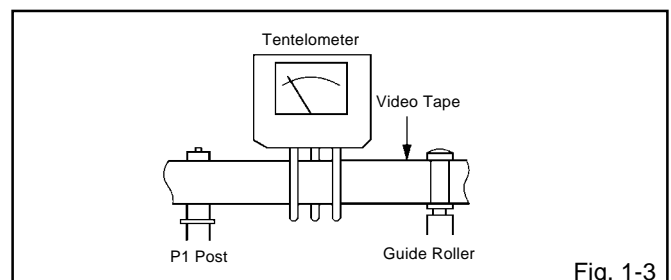

Fig. 1-3
- Install the tentelometer as shown in **Fig. 1-3**. Confirm that the meter indicates 20 ± 2 gf in the beginning of playback.
- After confirmation and adjustment of Tension Post position (**Refer to item 1-2**), load the cassette type torque tape (**KT-300NR**) and set to the PLAY mode.